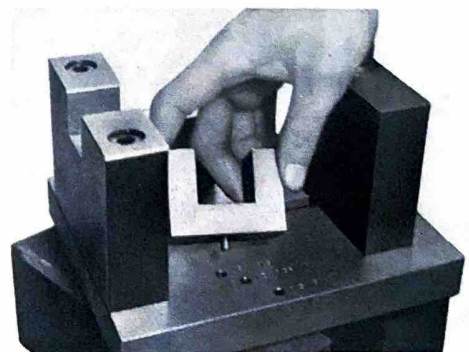

Fig. 4-17-12
- 1) Install Tool No. 6 (used to space the crankshaft. ass'y) on Tool No. 1. (Fig. 4-17-12)